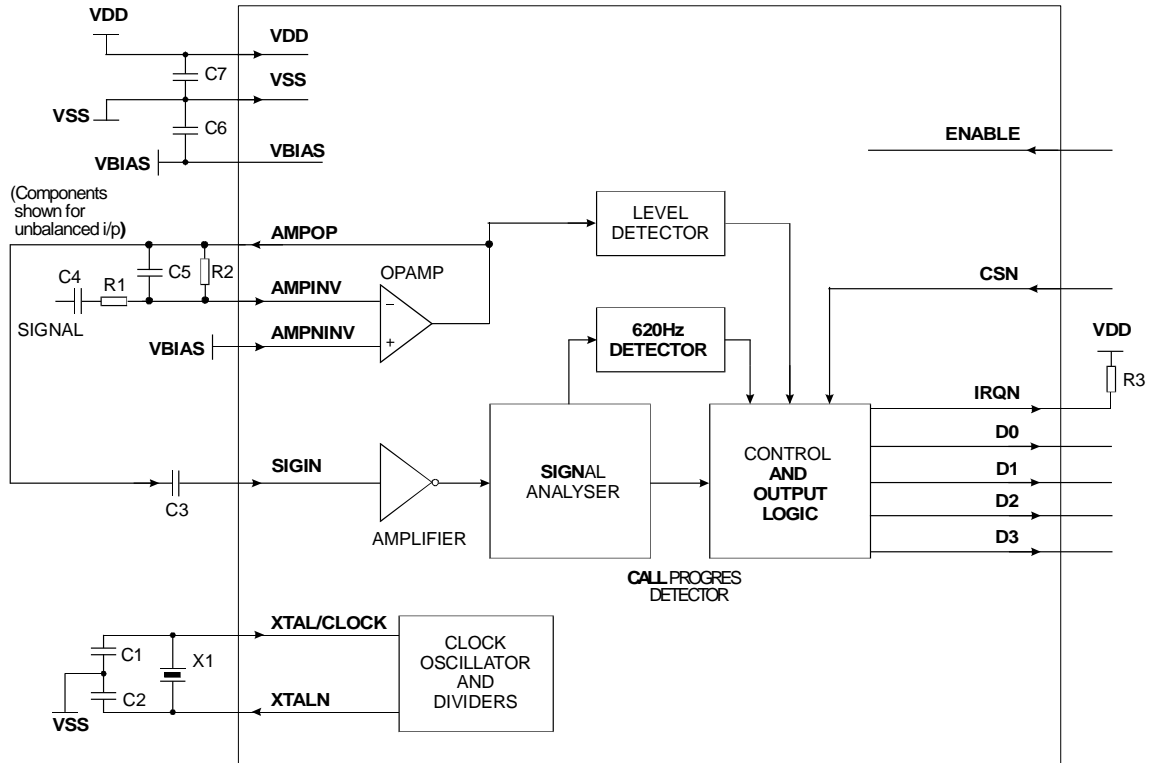

Figure 1 Block Diagram
Alias Response: Frequencies above 2300Hz may cause aliasing effects in the Signal Analyser. The use of a low-pass filter in the Input Amplifier, as shown in Figure 1, will help to reduce any aliasing effects.
1.5.3 Block Diagram Description (Reference Figure 1)